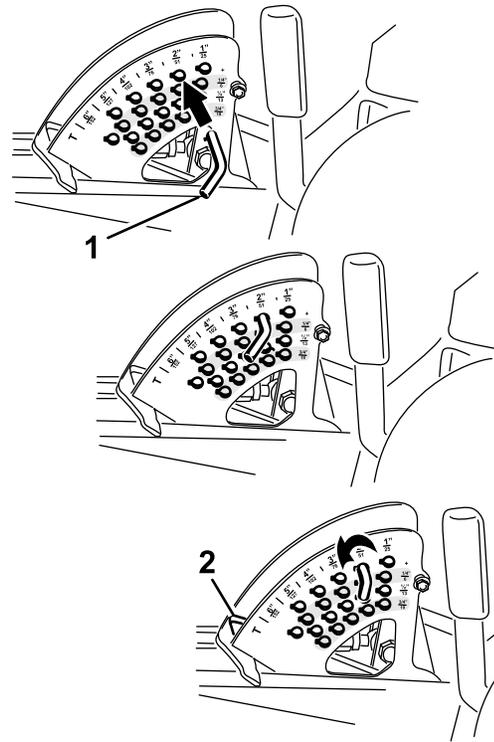

Figure 26
2. Rotate the stop pin until the roll pin in it lines up with the slots in the holes in the height-of-cut bracket and remove it (Figure 26).
3. Select a hole in the height-of-cut bracket corresponding to the height of cut desired, insert the pin, and rotate it down to lock it in place (Figure 26).
**Note:** There are 4 rows of hole positions (Figure 26). The top row gives you the height of cut listed above the pin. The second row down gives you the height listed plus 6 mm (1/4 inch). The third row down gives you the height listed plus 12 mm (1/2 inch). The bottom row gives you the height listed plus 18 mm (3/4 inch). For the 15.8 cm (6 inch) position, there is only 1 hole,